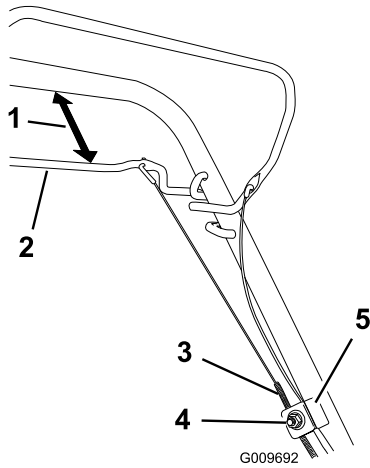

Figure 30
1. Loosen the cable-support nut (Figure 30).
2. Hold the self-propel bail 25 to 38 mm (1 to 1-1/2 inches) from the handle (Figure 30).
3. Pull down the cable jacket (toward the machine) until there is no slack in the cable (Figure 30).